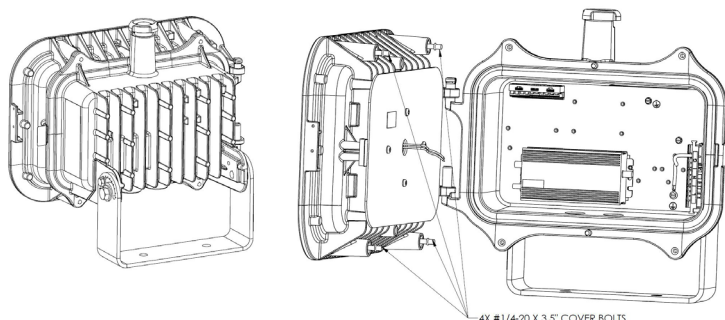

Figure 1
1. Swing open front light engine (LED Assembly) by loosening four (4) #1/4-20 X 3.5" stainless steel cover bolts using a Philip drive screwdriver (see Figure 1). The light engine should be removed by pulling retention clip/latch in front to free it from driver housing and swing open about the hinges (See Figure 1).